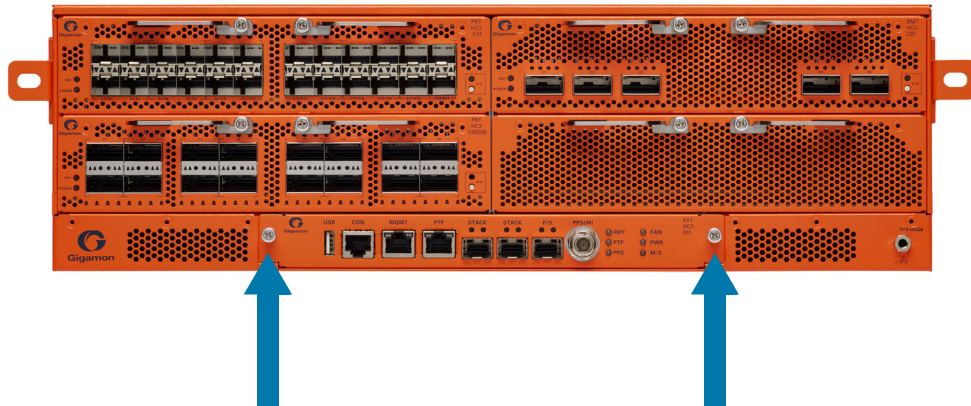

Figure 4-15: Extension Board Screw Location on GigaVUE-HC3 Front
2. Locate the two thumb screws on the extension board as shown in Figure 4-15 on page 84.